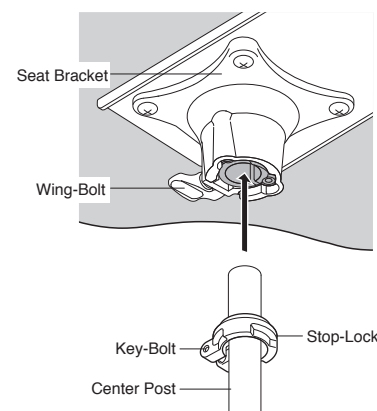

Fig. 4
2. Mount the Seat on the Center Post with the Stop-Lock inserted fully into the Seat Bracket as shown (Fig. 4).
3. Tighten the Wing-Bolt with enough pressure to allow the Seat to rotate (Fig. 4).